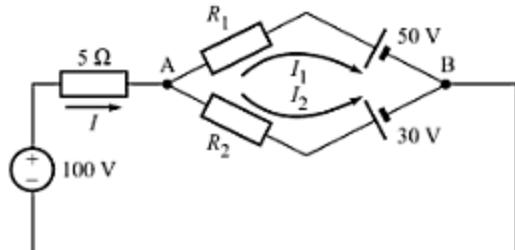

Fig. A-99
- A-63.** In the circuit of Fig. A-99, (a) find R_1 and R_2 such that $I_1 = 1 \text{ A}$ and $I_2 = 5 \text{ A}$, and (b) find R_2 such that $I_1 = 0$.